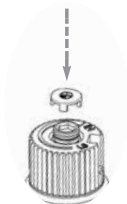

Fig.6
- 20) Re-assemble the black protection cap (Fig. 6).